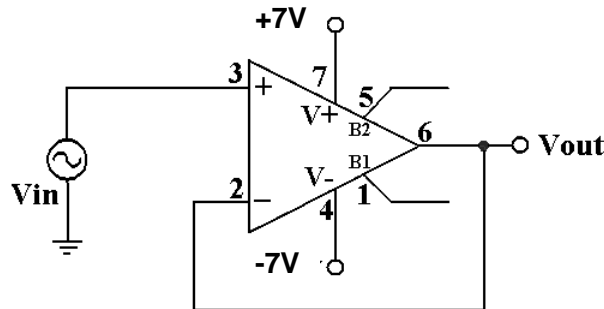

Fig. 6. Unity Gain Buffer Configuration.
8. Simulate the unity gain buffer configuration shown in Fig. 6 with a load of 2k in parallel with 100 pF at the output. Assume a sinusoidal input of 10 Vpp at 15 kHz . Obtain the maximum dV_{out}/dt of the output signal and find the frequency at which this Opamp will enter the slew rate conditions.